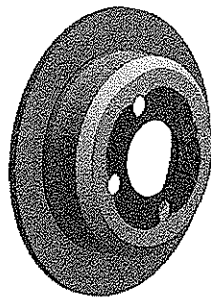

Figure 11-18 Temperature distribution across the whole body
11. Select **Temperature** under the **Solution** node in the Tree Outline; temperature distribution in the model is displayed in the Graphics screen, as shown in Figure 11-18.